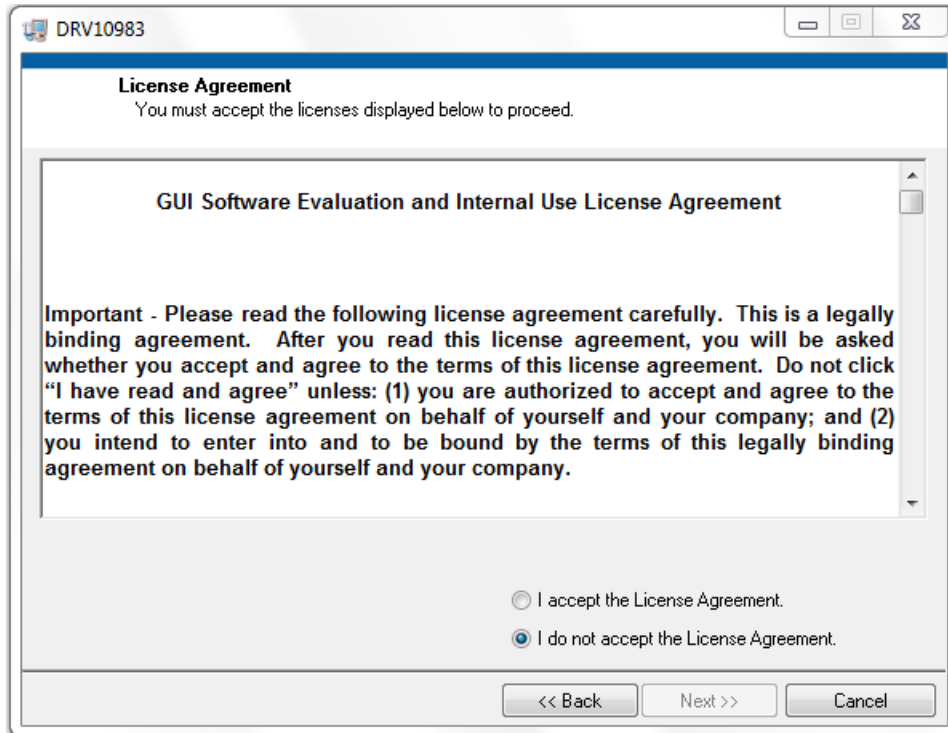

Figure 17. GUI License Agreement
4. The *License Agreement* screen appears as shown in Figure 17. Read through the agreement carefully and enable the “I Accept the License Agreement” radio button, then press the *Next»* button.